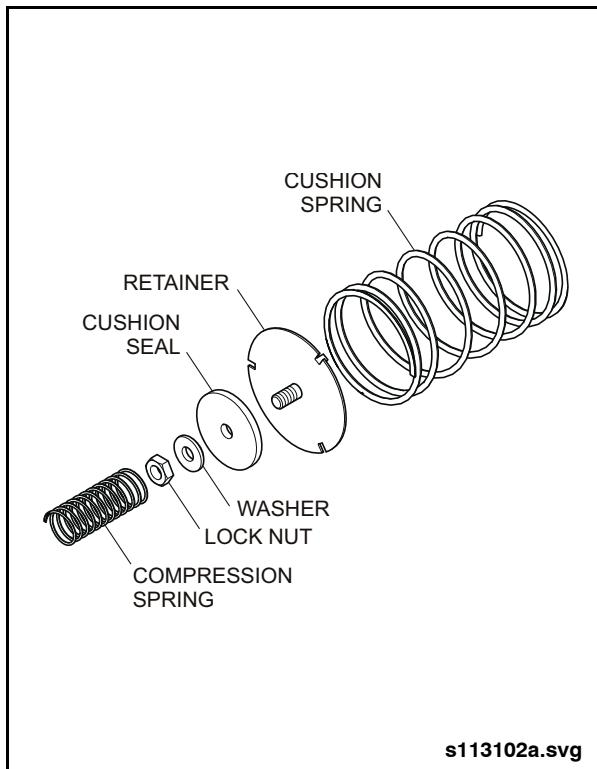

Fig. 16-10: Cushion Spring & Seal
9. Remove the cushion seal from the cushion spring assembly by removing the lock nut, washer and the spring retainer. Discard the cushion seal. See "Fig. 16-10: Cushion Spring & Seal" on page 21.